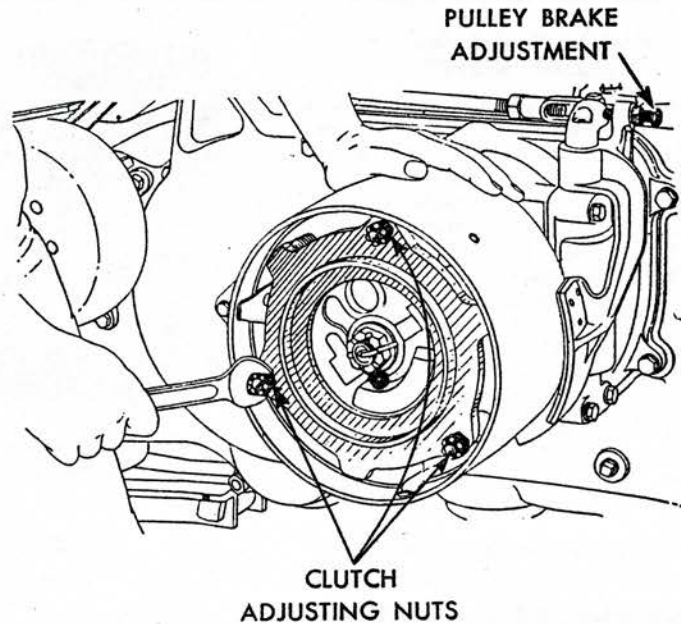

Fig. 24 Clutch and pulley brake adjustments. Series A, B, D, G, H. Typical of Models 50, 60
first set the clutch lever in the engaged position. Then remove the pulley cover and tighten each of the three nuts a little at a time to an equal tension. This can be determined by the effort required to turn the nuts, Fig. 24. Now try the clutch lever. It should go into engaged or operating position with a snap requiring some pressure.
**SERIES A, B, D, G, H**—The clutch is properly adjusted when the three adjusting nuts are drawn up to exactly the same tension, Fig. 24. The tension is determined by the effort required to turn the nuts. The bolts may project unequal distances beyond the nuts when the tension is equal with clutch engaged.
**SERIES A, B, D, G, H**—To adjust the pulley brake, turn the set screw, Fig. 24, until the brake holds the pulley from turning when the clutch lever is held clear back.